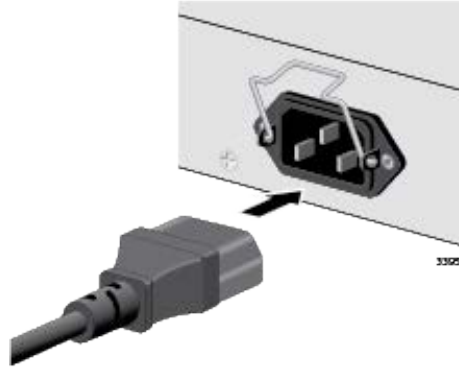

Figure 60. Connecting the AC Power Cord
2. Connect the AC power cord to the AC power connector on the rear panel. Refer to Figure 60.